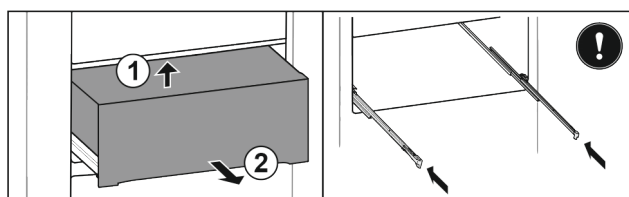

Fig. 29*
- ▶ Lift it up at the back from below Fig. 29 (1).*
- ▶ Take out to the front Fig. 29 (2).*